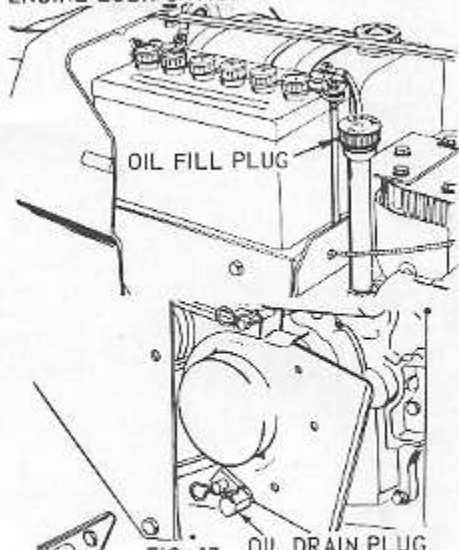

FIG. 17 OIL DRAIN PLUG
2. To drain oil, unscrew oil drain plug at lower R.H. side of engine, see Fig. 17. Catch oil in suitable container.